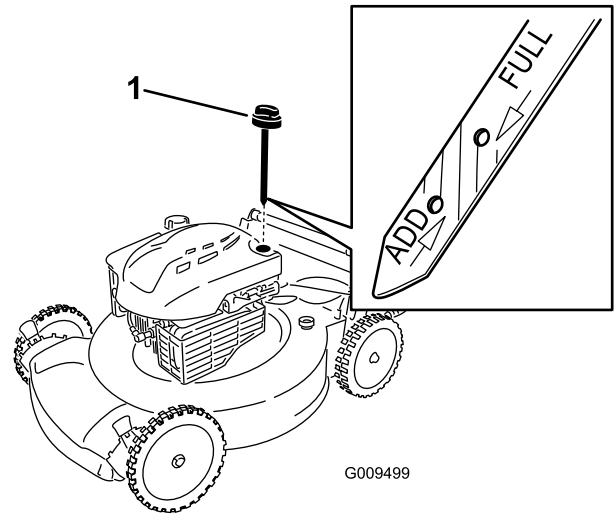

Figure 8
2. Remove the dipstick (Figure 8).
Note: If the oil level is below the **Add** mark on the dipstick, **slowly** pour a small amount of oil into the oil fill tube, wait 3 minutes, and repeat steps 3 through 5 until the oil level is at the **Full** mark on the dipstick (Figure 8).